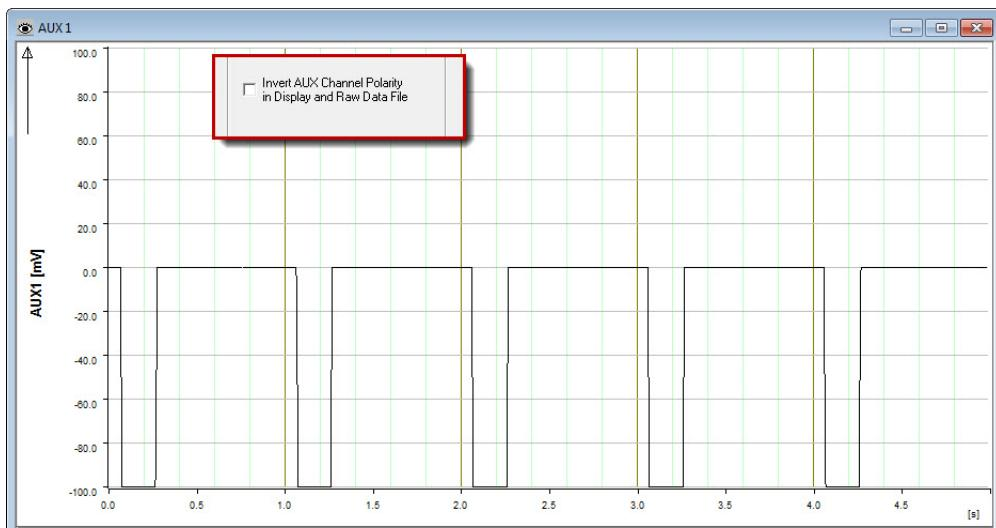
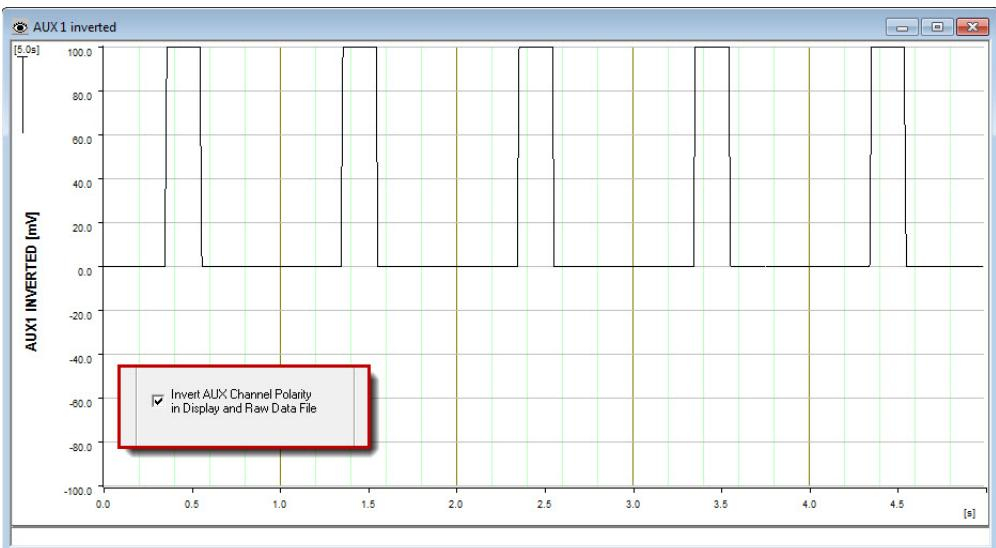

Figure 8-18. AUX 1 channel not inverted (box not selected)
Figure 8-19. AUX 1 channel inverted (box selected)
- 5 **Invert AUX Channel Polarity in Display and Raw Data File** allows you to invert the display of AUX channels (Figure 8-18 and Figure 8-19). The AUX inputs are used to connect external sensors to measure temperature, skin conductivity, etc.